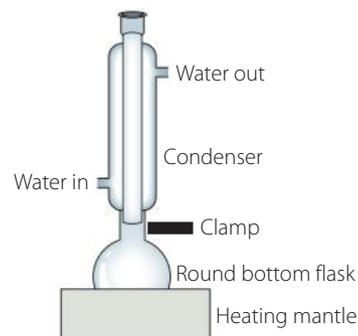

FIGURE 12.7 Apparatus used for refluxing an ester mixture
In ester formation, a process called **reflux** is used. The apparatus for refluxing is shown in Figure 12.7.
- Assemble the reflux apparatus as seen in Figure 12.7 (page 345) ensuring both the flask and condenser are securely clamped and tightly fitted together.